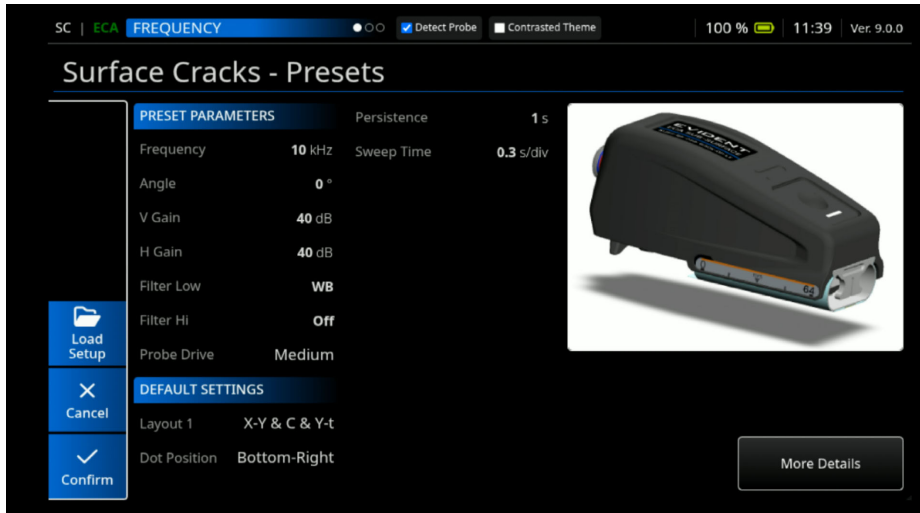

Figure 4-59 Sub-Surface Cracks Presets with ECA
2. Press **Confirm** to launch the SUBS-64-020-1k50k-DP-L base use case (See Figure 4-59 on page 163).